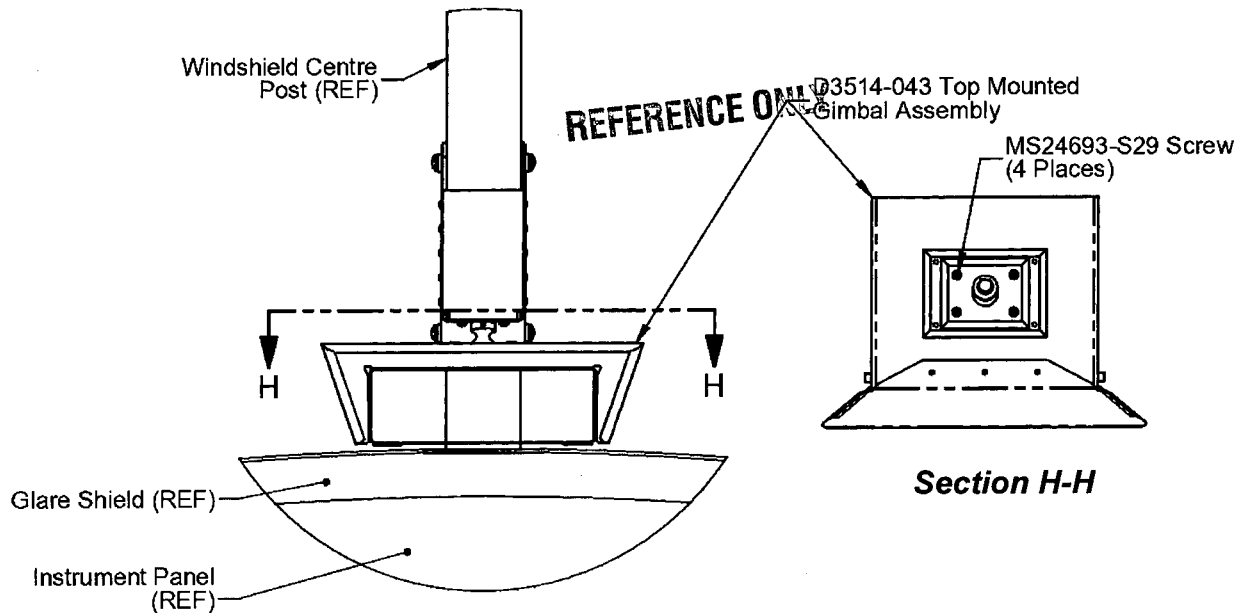

Figure 3.3.4 – Loosen Screws to Adjust Position of Receiver Housing
Note: The Gimbal Mount can be secured in the desired orientation by tightening the qty(4) MS24693-S29 screws found on the D3514-043 Top Mounted Gimbal Assembly as shown in **Figure 3.3.4**